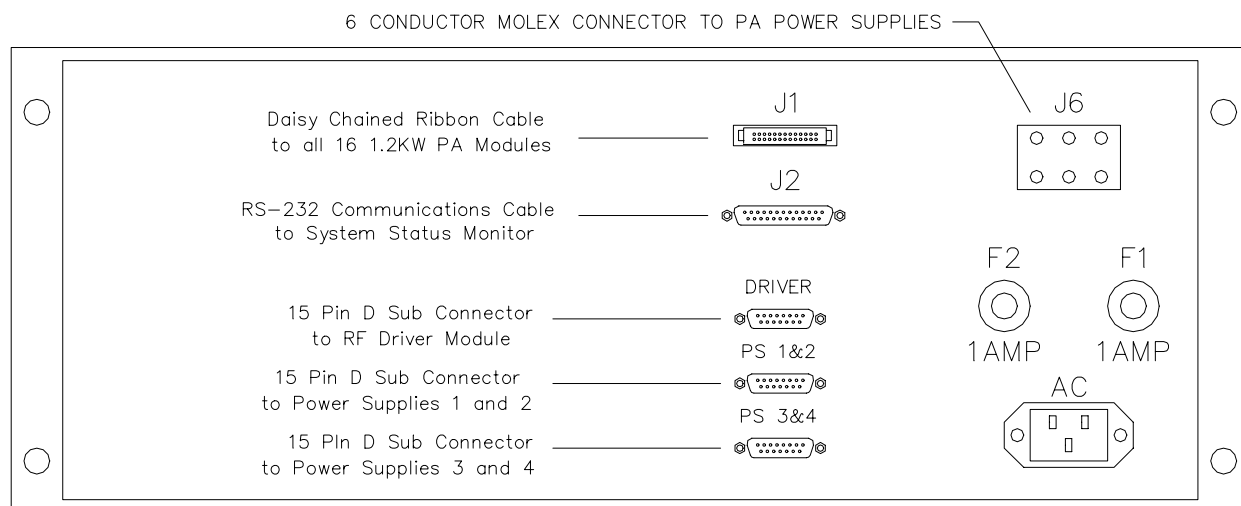

Figure 6-5 Amp Local Monitor Rear Panel
3. Disconnect the seven cables from the rear panel of the AMP Local Monitor (see Figure 6-5), and note the locations and polarity of their connectors for future reference.